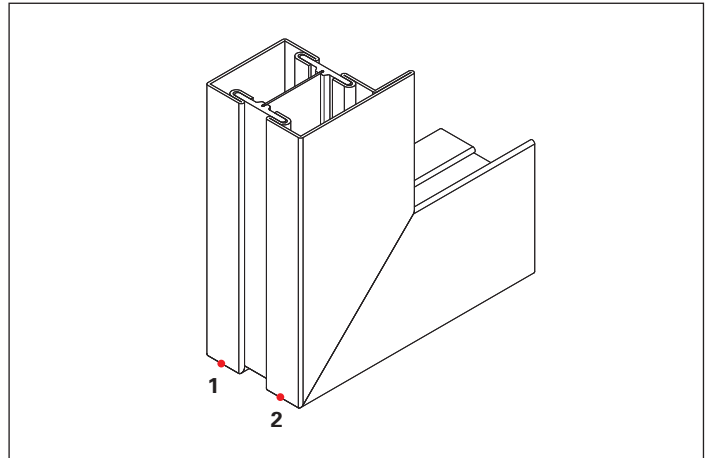

Fig. 79 Tack the corners (1 and 2) on the outside
2. Tack the corners on the outside and door sill joints on the profile surface on the inside (Fig. 79 / 80)